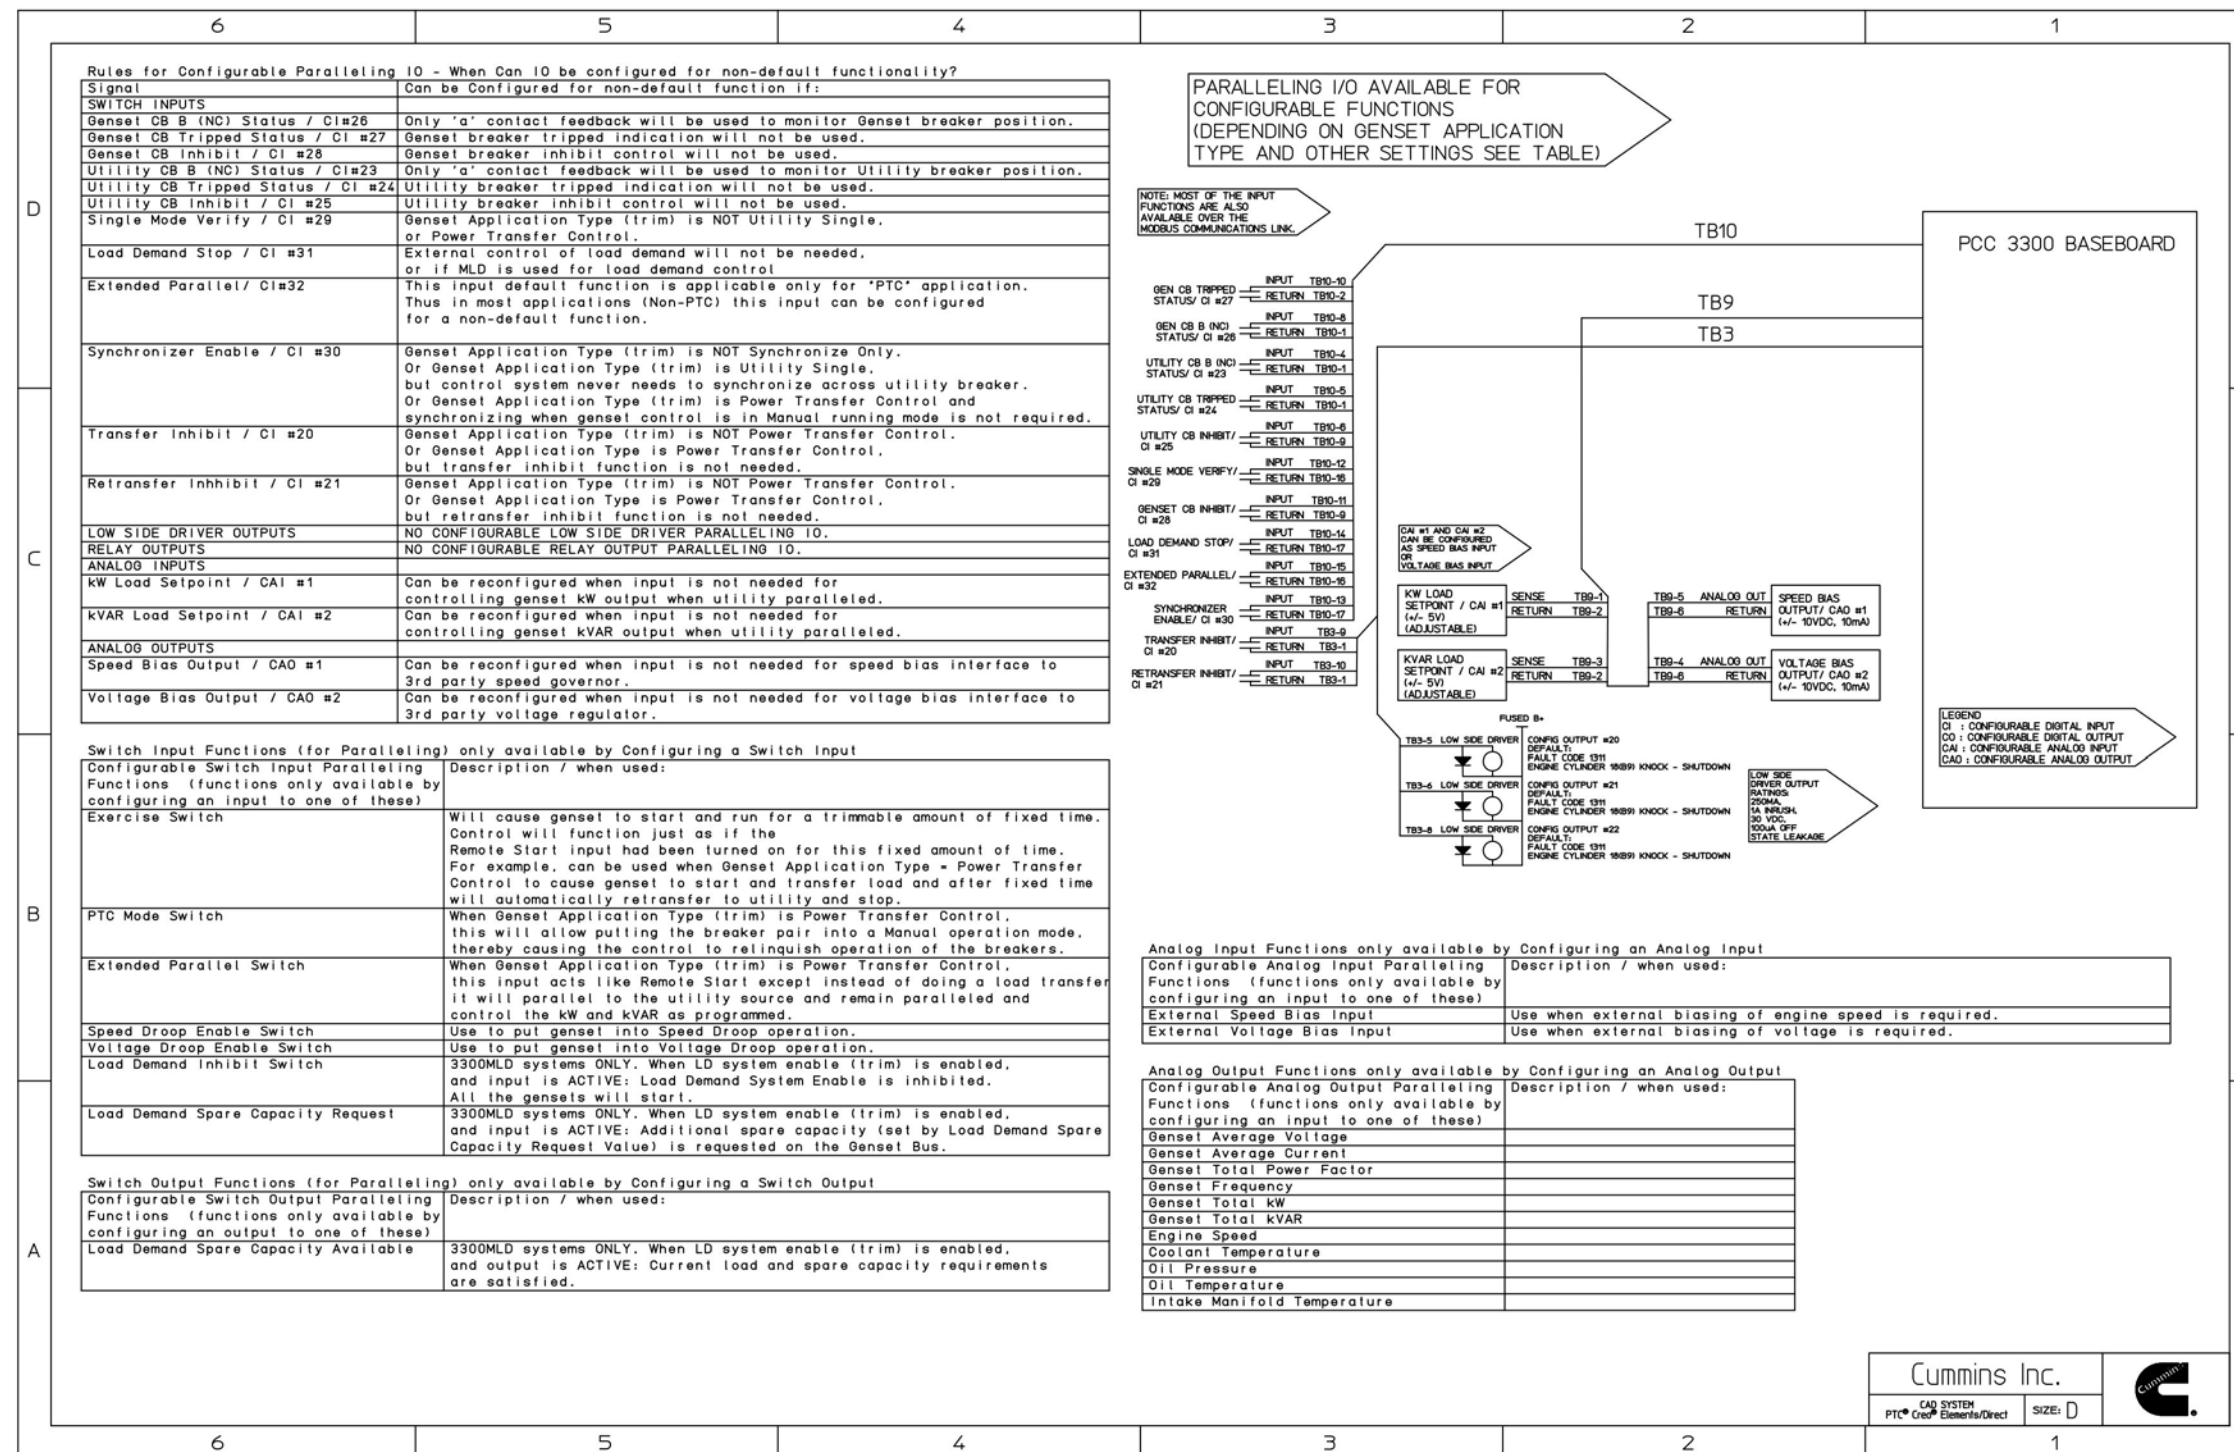

FIGURE 82. POWERCOMMAND 3.3 PARALLELING CONNECTIONS - CONFIGURABLE PARALLELING I/O
- Figure 82. PowerCommand 3.3 Paralleling Connections - Configurable Paralleling I/O 137